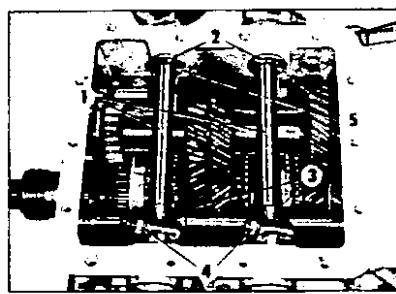

Fig. F.23 Installing the cross shaft.
Fit the cross-shafts (1 in Fig.F.23.) the thrust washers (2) and the operating levers (3). Secure the cross-shafts with the retaining rings (5) and lock the operating levers to the shafts with the pins (4).